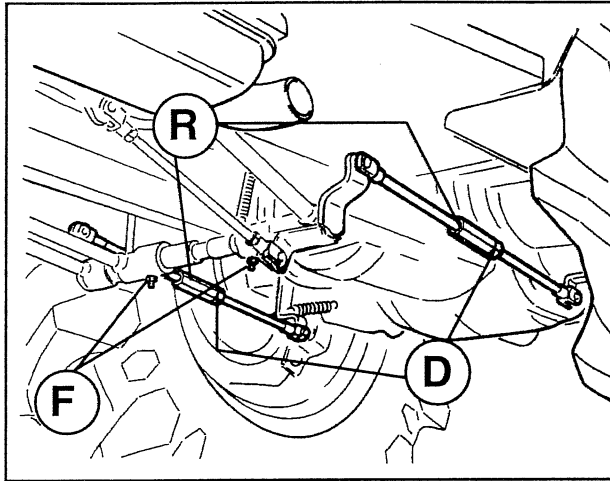

Fig. 45 Adjusting the service brakes and greasers on the brake pedals.
- Pedal unit under the footboard F (Fig. 45)
- b) Start the tractor and drive off. Try braking. If the tractor pulls to the RIGHT, adjust the RIGHT brake linkages (R) (Fig. 45) as follows. Slacken lock nut (D) and turn the adjuster anti-clockwise to increase the free play in the RIGHT pedal linkage. Re-tighten lock nut (D) on completion. If the tractor pulls to the LEFT, perform this operation on the LEFT linkages instead.